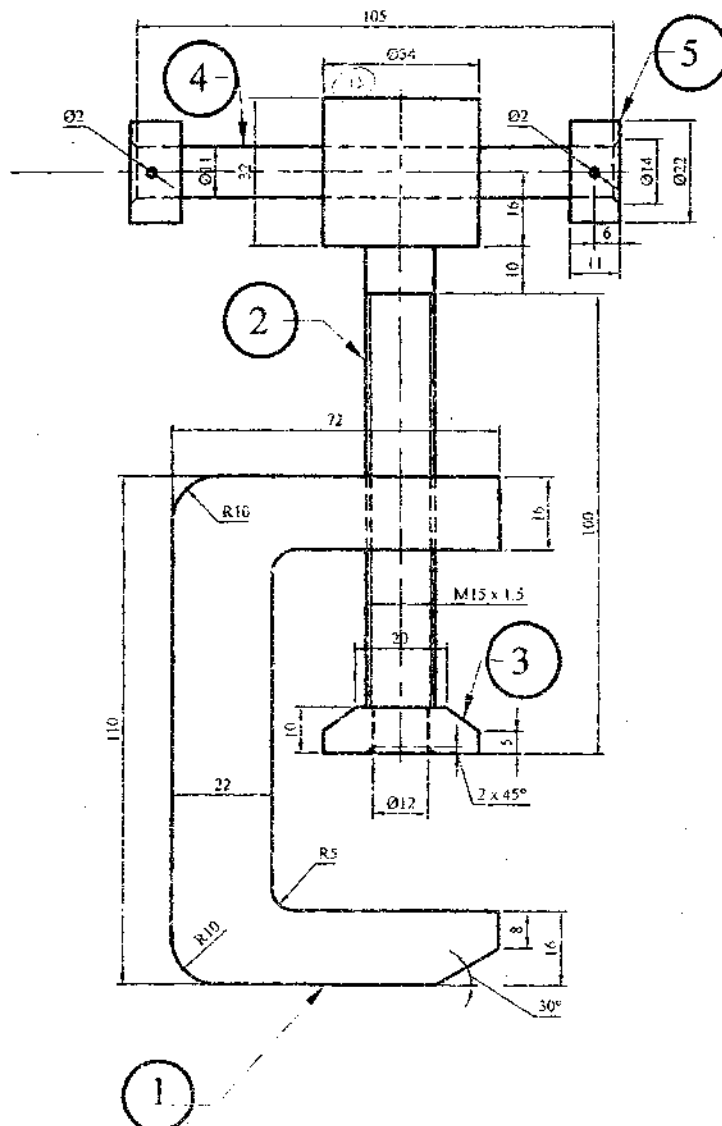

Figure P.4
4. The assembly drawing of Hand Vice is shown in Figure P.4. Draw detail drawing of each component. Assume suitable thickness if necessary. Part list is given below. [15]